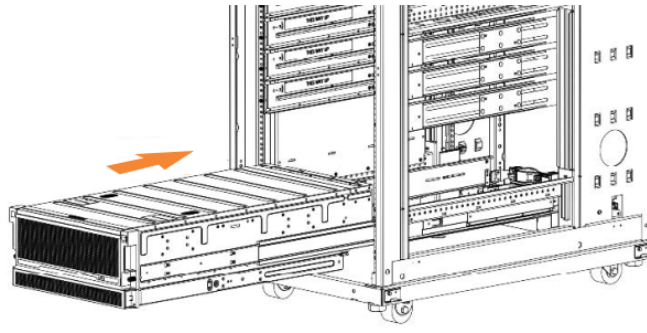

Figure 44. Example installation of the enclosure in the rack
- Install the expansion enclosure in the lowest position in the rack. Figure 44 on page 86 shows an example.